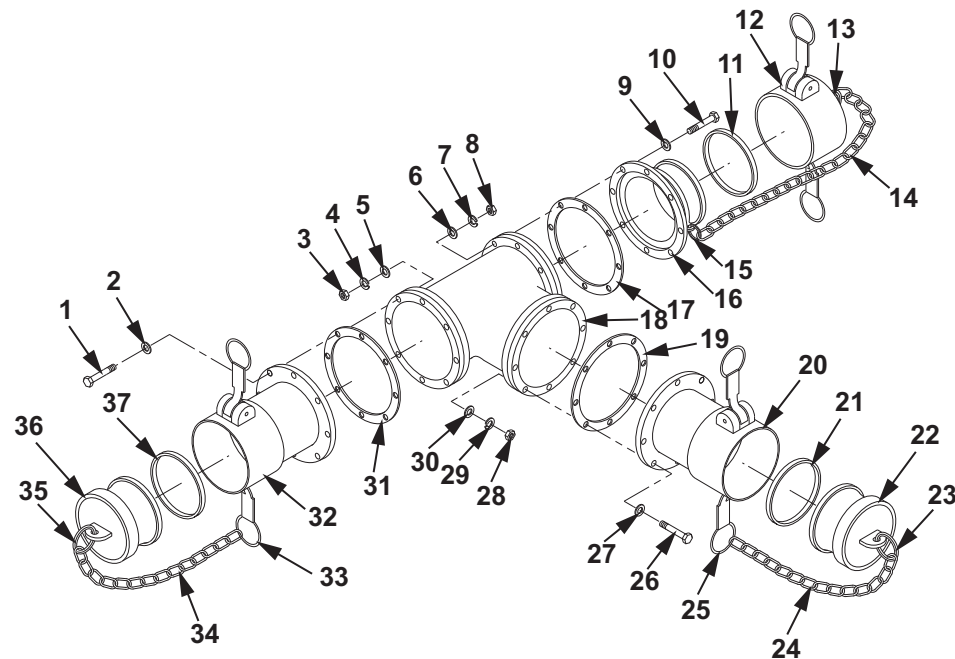

Figure 2. 4 In. Female X 4 In. Male X 4 In. Female Tee Assembly.
1. Install split ring (Figure 2, Item 33) on chain (Figure 2, Item 34).
2. Install split ring (Figure 2, Item 33) on coupling (Figure 2, Item 32).
3. Install split ring (Figure 2, Item 35) on chain (Figure 2, Item 34).
4. Install split ring (Figure 2, Item 35) on quick disconnect dust plug (Figure 2, Item 36).
5. Install split ring (Figure 2, Item 25) on chain (Figure 2, Item 24).
6. Install split ring (Figure 2, Item 25) on coupling (Figure 2, Item 20).
7. Install split ring (Figure 2, Item 23) on chain (Figure 2, Item 24).
8. Install split ring (Figure 2, Item 23) on quick disconnect dust plug (Figure 2, Item 22).
9. Install split ring (Figure 2, Item 15) on chain (Figure 2, Item 14).
10. Install split ring (Figure 2, Item 15) on coupling (Figure 2, Item 16).
11. Install split ring (Figure 2, Item 13) on chain (Figure 2, Item 14).
12. Install split ring (Figure 2, Item 13) on quick disconnect dust cap (Figure 2, Item 12).
13. Install eight screws (Figure 2, Item 1) and washers (Figure 2, Item 2) through coupling (Figure 2, Item 9), new gasket (Figure 2, Item 31) and tee (Figure 2, Item 18).
14. Install eight washers (Figure 2, Item 5), new lockwashers (Figure 2, Item 4) and nuts (Figure 2, Item 3) on screws (Figure 2, Item 1). Hand tighten eight nuts (Figure 2, Item 3).
15. Using torque wrench and adapter, torque eight nuts (Figure 2, Item 3) to 37–43 ft lb (50–58 N·m).
16. Install eight screws (Figure 2, Item 26) and washers (Figure 2, Item 27) through coupling (Figure 2, Item 20), new gasket (Figure 2, Item 19) and tee (Figure 2, Item 18).
17. Install eight washers (Figure 2, Item 30), new lockwashers (Figure 2, Item 29) and nuts (Figure 2, Item 28) on screws (Figure 2, Item 26). Hand tighten eight nuts (Figure 2, Item 28).
18. Using torque wrench and adapter, torque eight nuts (Figure 2, Item 28) to 37–43 ft lb (50–58 N·m).
19. Install eight screws (Figure 2, Item 10) and washers (Figure 2, Item 9) through coupling (Figure 2, Item 16), new gasket (Figure 2, Item 17) and tee (Figure 2, Item 18).
20. Install eight washers (Figure 2, Item 6), new lockwashers (Figure 2, Item 7) and nuts (Figure 2, Item 8) on screws (Figure 2, Item 10). Hand tighten eight nuts (Figure 2, Item 8).
21. Using torque wrench and adapter, torque eight nuts (Figure 2, Item 8) to 37–43 ft lb (50–58 N·m).
22. Install new gasket (Figure 2, Item 37) and quick disconnect dust plug (Figure 2, Item 36) into coupling (Figure 2, Item 32).
23. Install new gasket (Figure 2, Item 21) and quick disconnect dust plug (Figure 2, Item 22) into coupling (Figure 2, Item 20).
24. Install new gasket (Figure 2, Item 11) and quick disconnect dust cap (Figure 2, Item 12) onto coupling (Figure 2, Item 16).